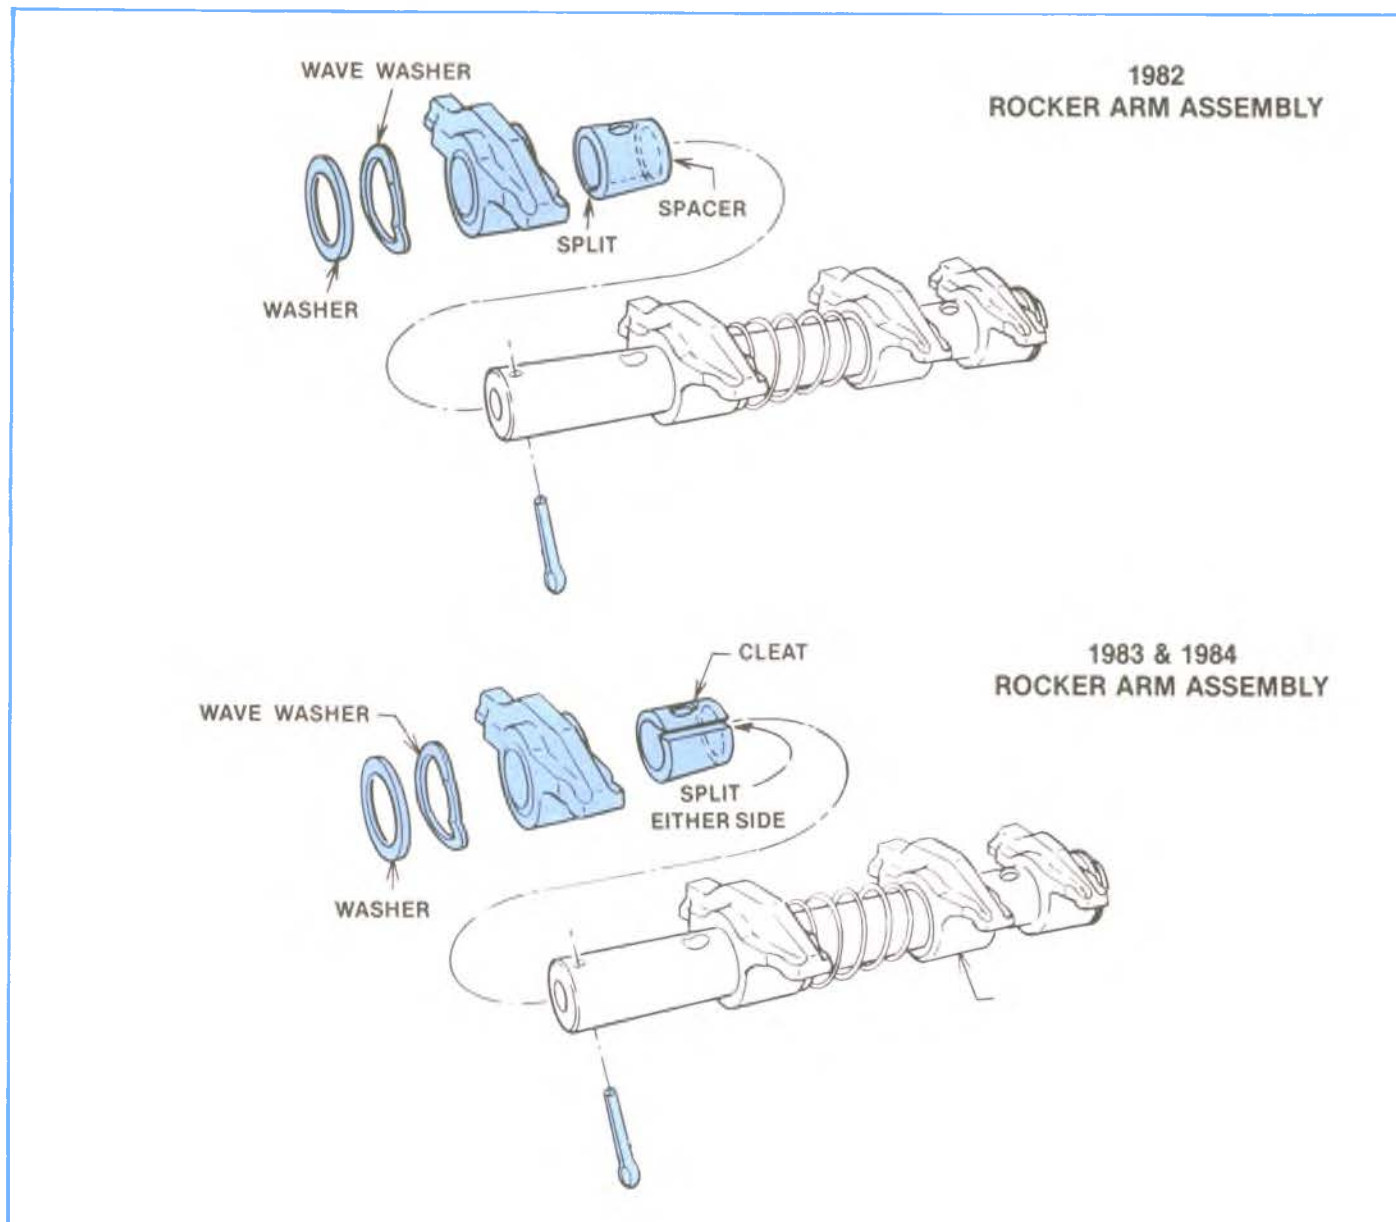

Figure 2-10, 1982-84 Rocker Shafts.
3. Before installing bolts through shaft be certain that ring around shaft is installed with "split" at bottom (See Figure 2-10) on 1982 models. On 1983 and later the split is 90° to the right. On 1985 and later no split ring is used.